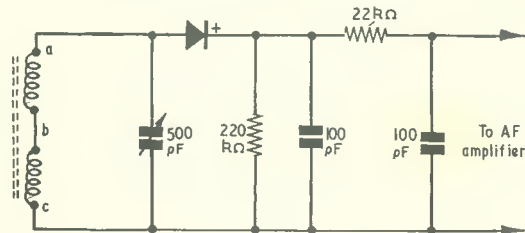

Fig. 3. A temporary crystal receiver set-up to find the required number of turns between points "b" and "a". Any germanium diode may be employed
- (e) Disconnect the coil from the oscillator and wind on a second coil (140 turns) at the other end of the slab. Connect both windings in series across a 500pF tuning capacitor, and build into a crystal set arrangement, preferably using an a.f. amplifier. See Fig. 3.